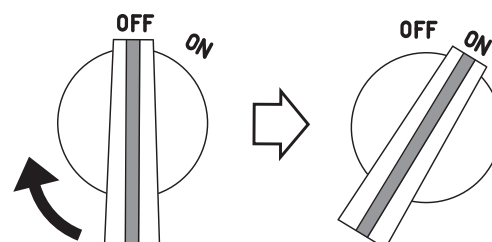

Figure 16. Engine ON/OFF Switch (ON Position)
5. Place the engine ON/OFF switch (Figure 16) in the "ON" position.